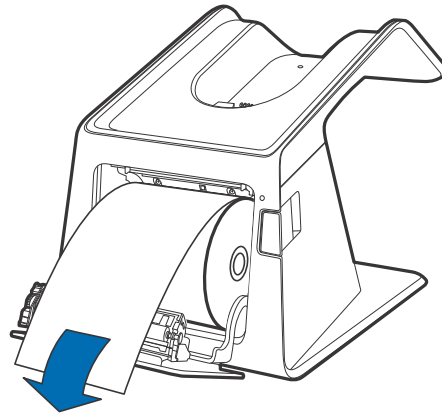

Figure 8 Pulling Paper Through Before Closing Door
- 6 Pull the paper past the printer door (see Figure 8).